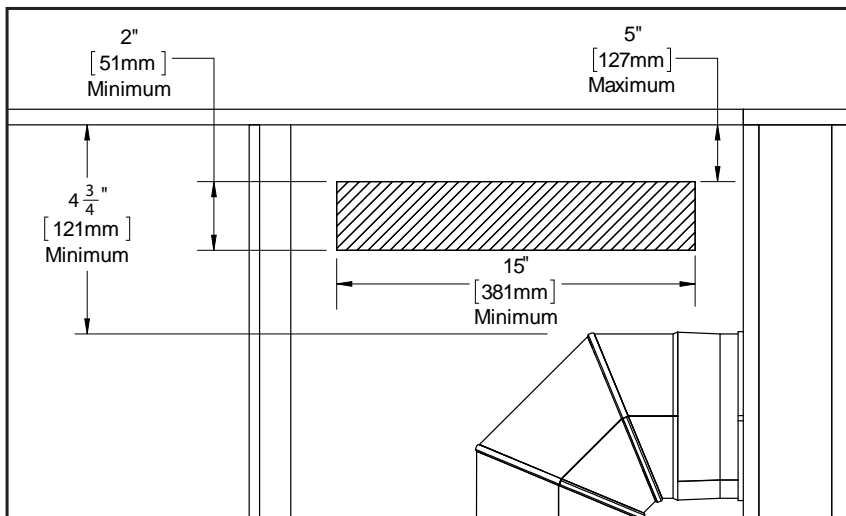
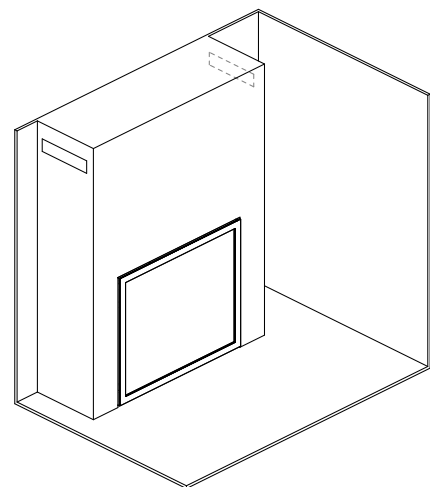

Figure 49: Side Discharge
Figure 50: Side Discharge Iso View
**Option 4: Side Discharge** - Construct the framing in a way that provides two gaps, one on each side of the chase as shown in Figure 49 & Figure 50. Each gap should be a minimum of 15 inch (381mm) by 3 inch (76mm). It is essential that these dimensions are followed and not to deviated from them when using combustible materials inside the chase.